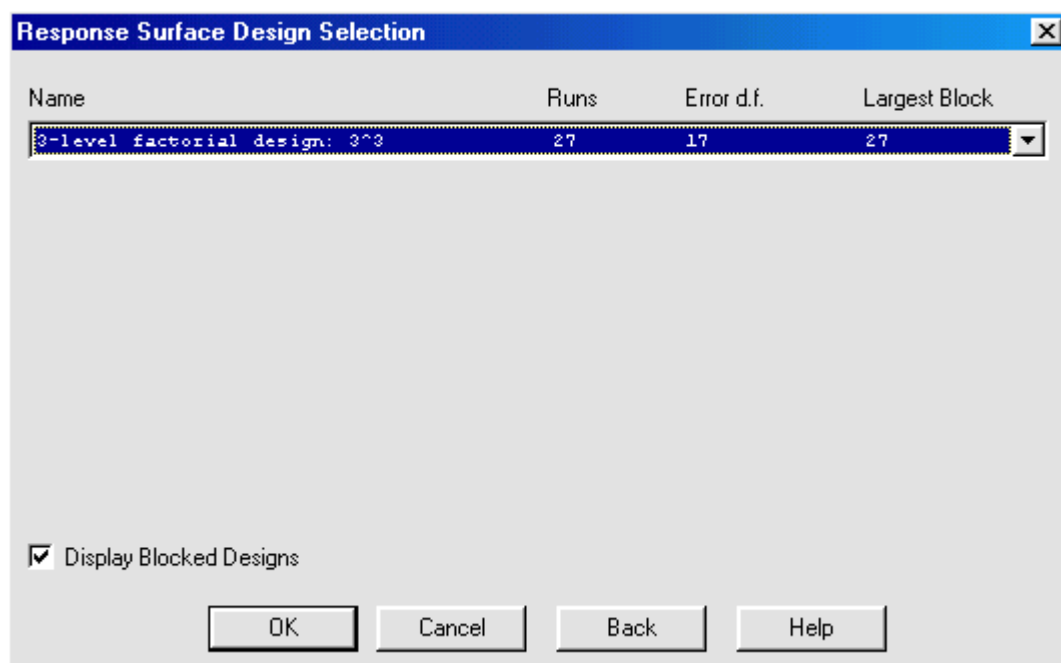

Figure 11-4. Response Surface Design Selection Dialog Box
- Click OK to display the Response Surface Design Selection dialog box shown in Figure 11-4.